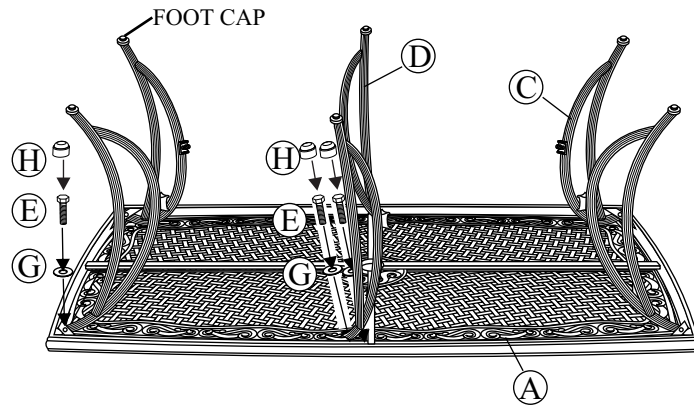

Fig.1
- 1 Place the table top(A) upside down on a flat, non-abrasive surface. Attach a side leg(D) to the table top(A) by using a bolt(E) a washer(G) as shown in the Fig.1. Place the leg beneath the table rim corner bracket. Guide the bolt through the hole in the table rim corner bracket and into the pre-drilled hole in the side leg. Hand tighten only. **Do not tighten completely.** Some adjustments may be necessary to ensure proper alignment of the table legs. Repeat for the other three side legs. Attach the middle leg(D) to the table top(A) by using a bolt(E) a washer(G) as shown in the Fig.1. Hand tighten only. **Do not tighten completely.** Repeat for the other middle leg.